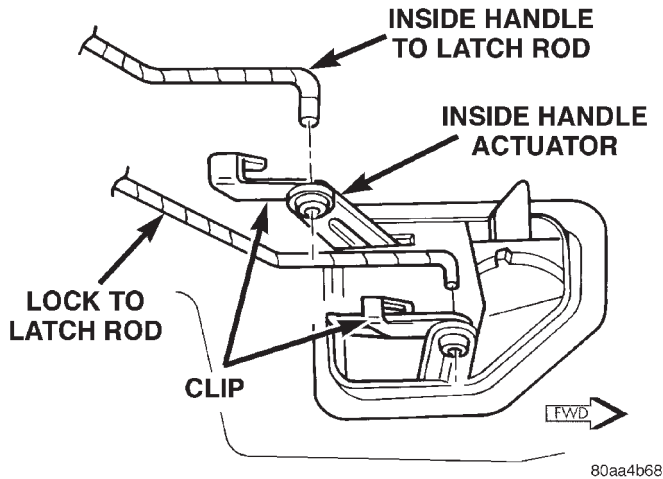

Fig. 47 Latch Rods
- (5) Lift the trim panel up and outward to separate from the inner belt seal.
- (6) Move the door trim panel outward and disconnect the handle-to-latch rods (Fig. 47).
- (7) Disconnect the power windows wire harness connectors, if equipped.
- (8) Remove the trim panel from door.